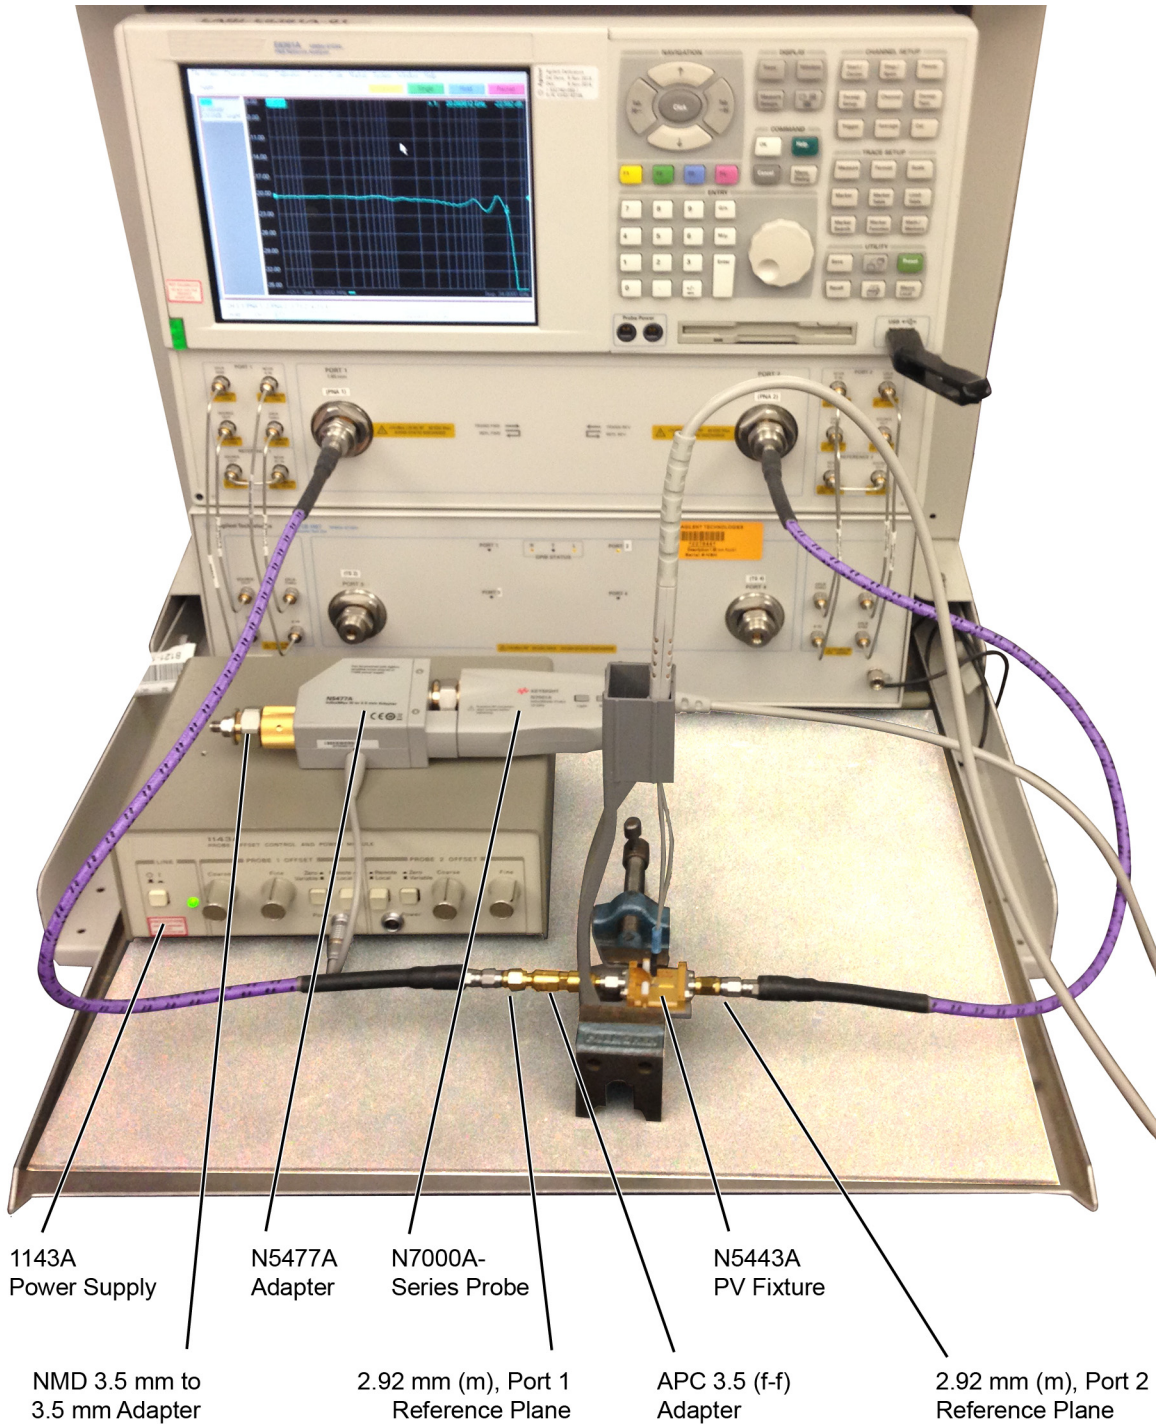

Figure 102 Test Setup for Measuring V_{in} of Probe
- 3 Connect the APC 3.5 (f-f) adapter, provided with the N5443A PV fixture, to the N5443A, as shown in **Figure 102**. Use a small bench vise to steady the N5443A PV fixture on the test surface.